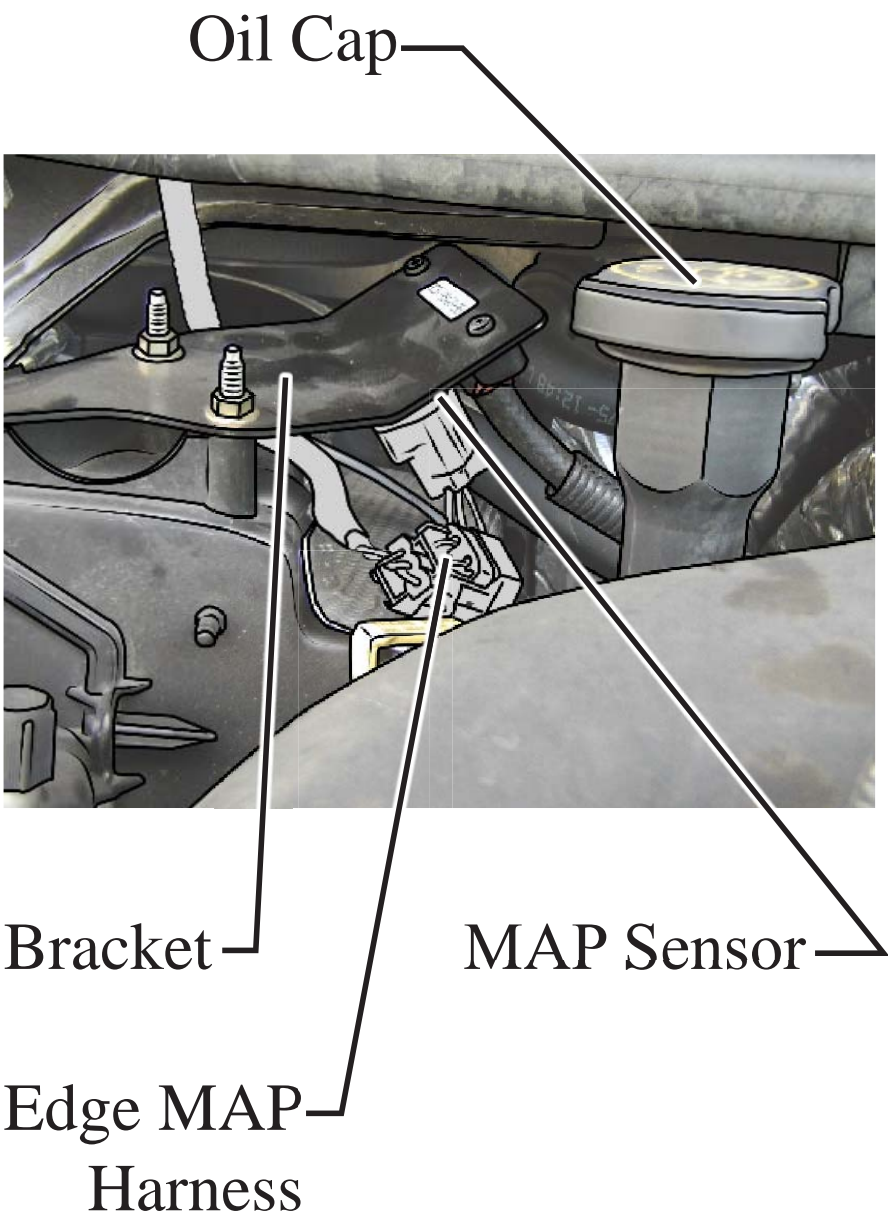

FIGURE 7 - Final Assembly
3. Figure 7 shows an assembled MAP harness. Note that the MAP Sensor is bolted to the backside of the bracket shown.